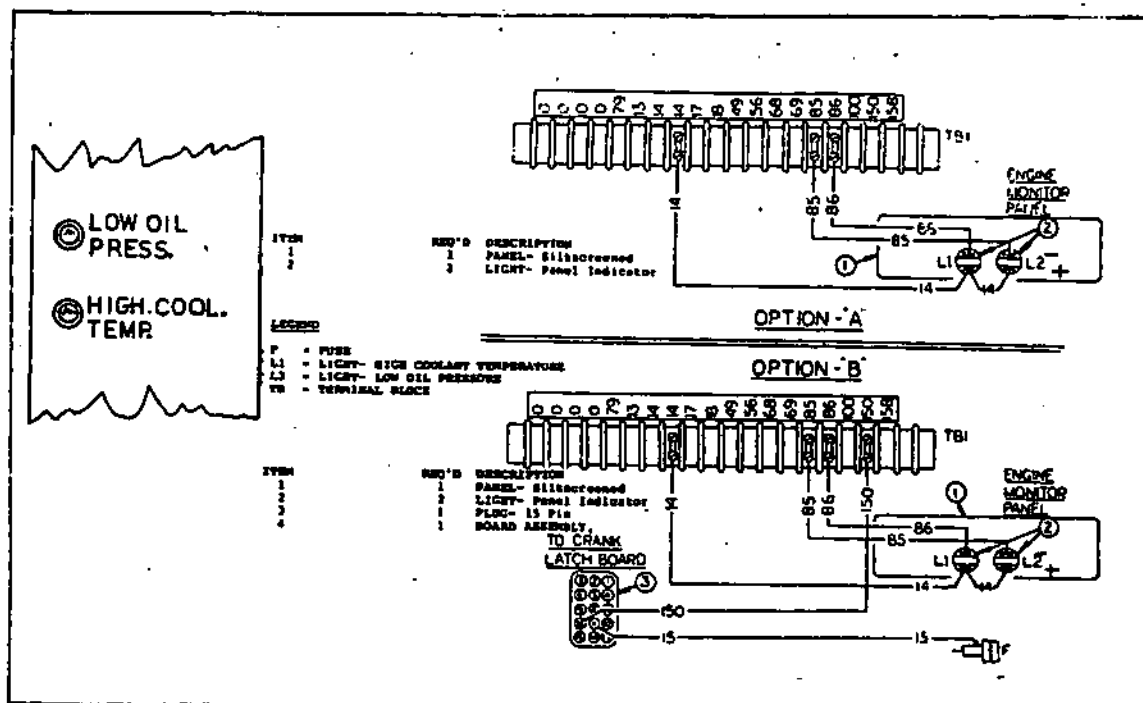

Figure 3.6-A. Engine Monitor Panel- Options "A" and "B"
3.6.1- GENERAL (Figure 3.6-A)
3.6.3- HIGH COOLANT TEMPERATURE ADVISORY LIGHT (Figure 3.6-A)